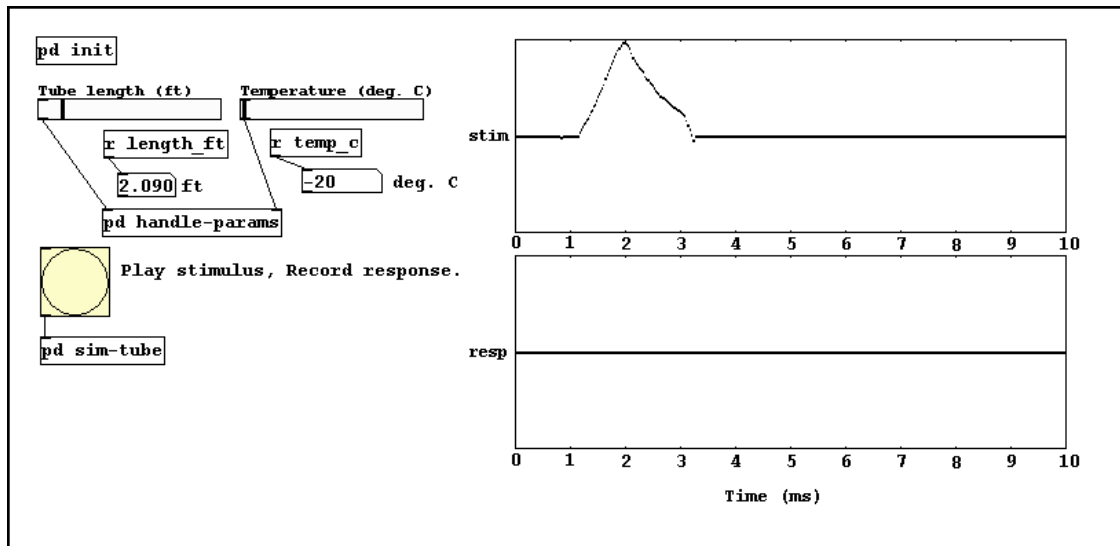

Figure 1: Screen capture showing open-ended acoustic tube patch with variable tube length and air temperature.
1. Download the `pd` patch `vir_tube1.pd`,⁵ and open it in `pd`. Figure 1 shows a sample screen capture of the patch.